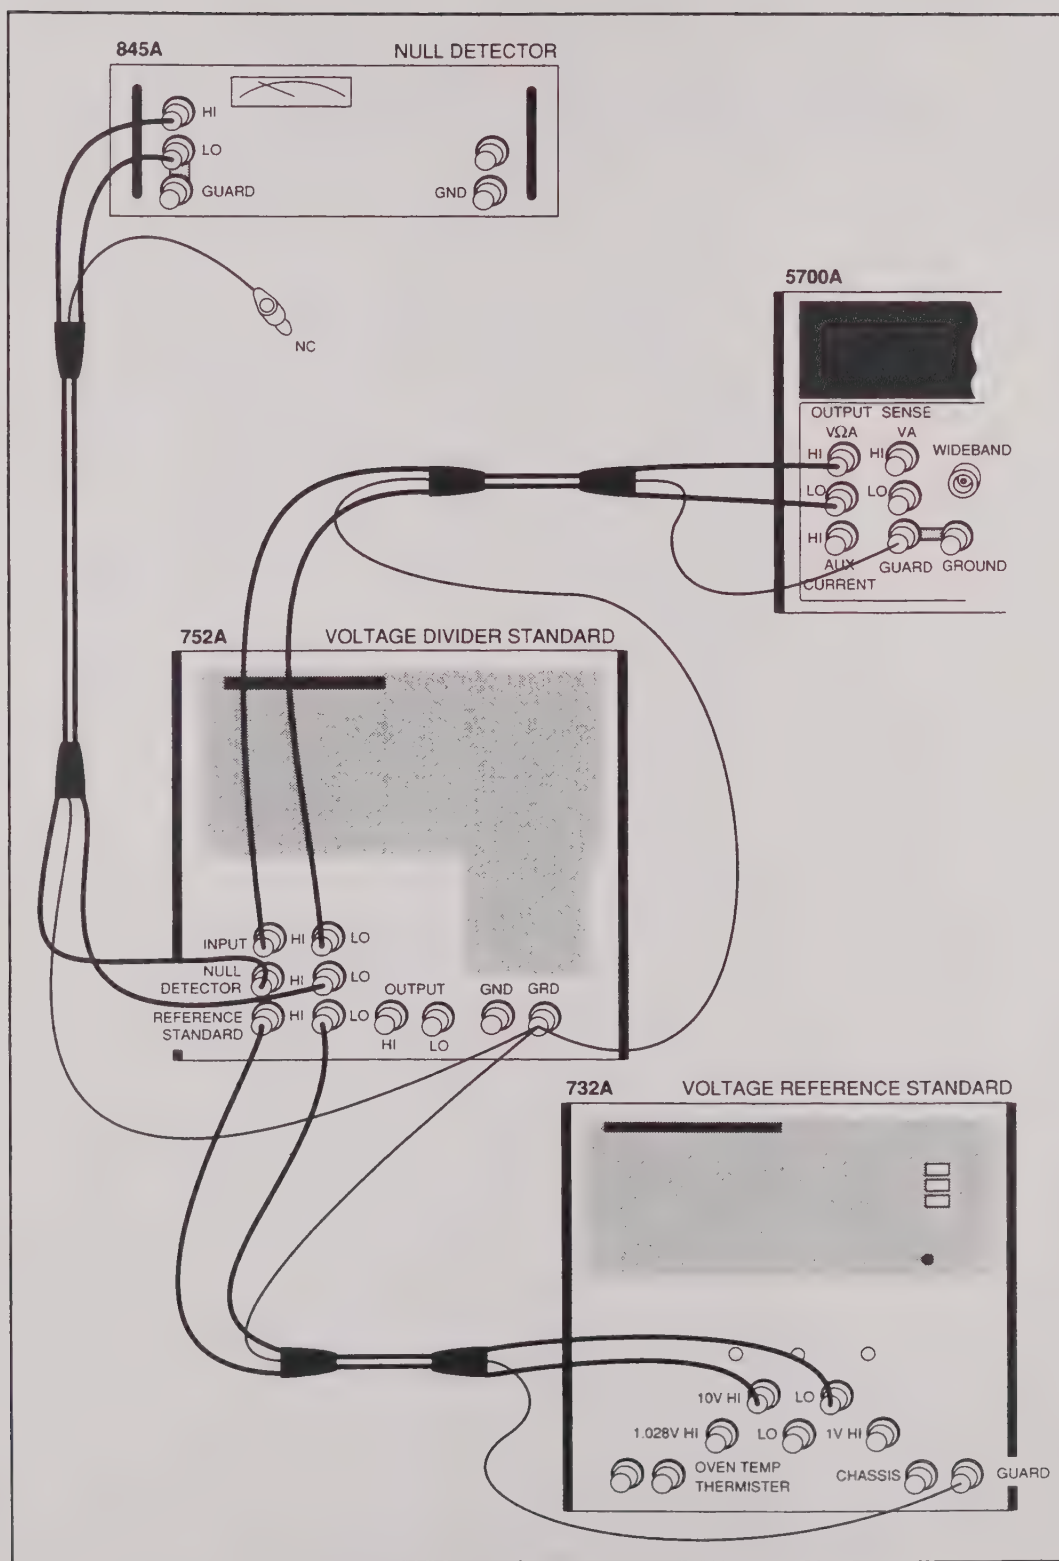

Figure 7-6. 220V DC Range Calibration Connections
7. Connect the 732A, 845A, and 732A in a 10:1 configuration as Figure 7-6 shows.